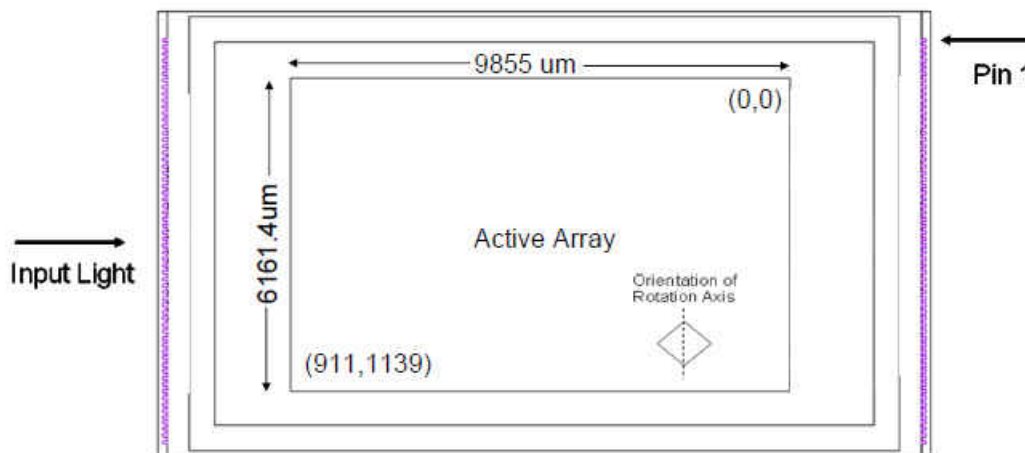

图 7-4. DLP4500NIR Micromirror Active Area
- (1) The mirrors that form the array border are hard-wired to tilt in the -12° ("Off") direction once power is applied to the DMD (see Micromirror Array, Pitch, and Hinge-Axis Orientation and Micromirror Landed Positions and Light Paths).
- (2) See Micromirror Array, Pitch, and Hinge-Axis Orientation.
- (3) See Micromirror Active Area in Figure 7-4.